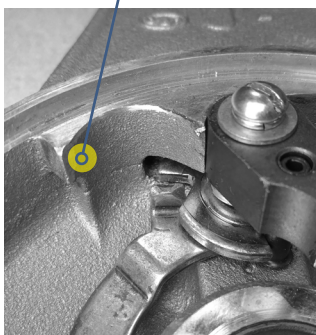
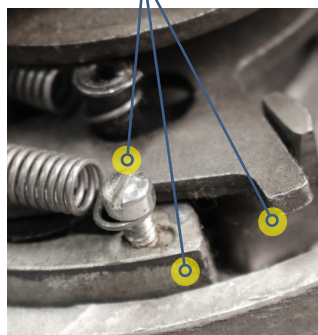

FIG. 1 Handle "STOP" Area
FIG. 2 Housing "STOP" Area
- (1) Examine "stop" surfaces for damage caused by improper practices such as allowing handle to self-ratchet, and "slamming" the handle during use. Refer to **Fig. 1**. Excessive battering results in eroding of "stop" surfaces on both the handle and housing. This can shear the housing spring retaining screw. As the surfaces erode, clearance between the tip of the unloader plate and the screw is reduced enough to allow the unloader plate to strike the screw. Refer to **Fig. 2**. Screw shearing can also occur if the hoist is allowed to "self-ratchet"; refer to **Fig. 6**. The momentum of the unloader plate can cause it to exceed its normal amount of travel and strike the spring screw.